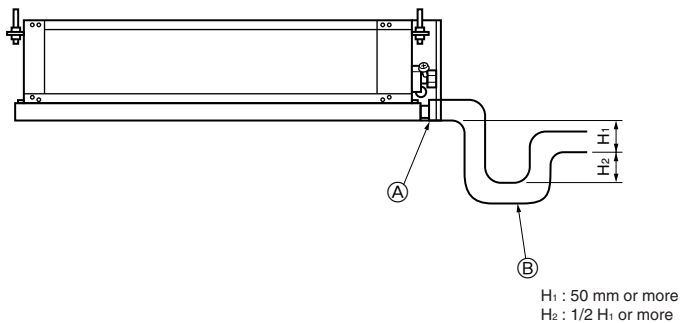

Fig. 6-1
6.1. Drainage pipe connection (Fig. 6-1)